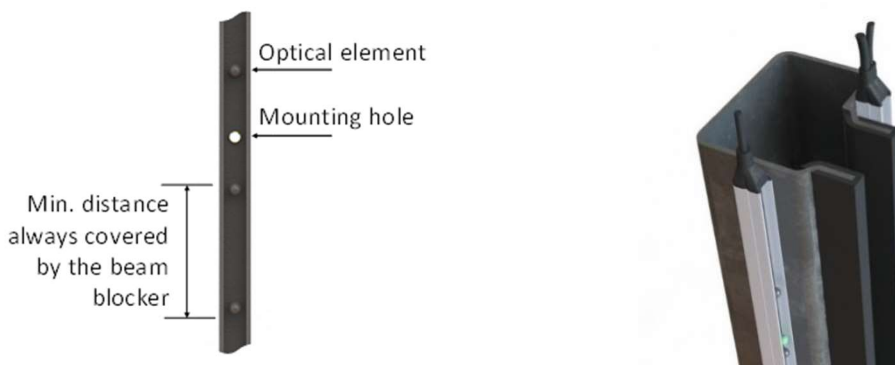

Figure 5.2: Door blanking with two RAY-LG sets
If two light curtains are installed parallel to, but not in line with the door panel in front of and behind the guide rail, the descending door will not interrupt the active beams. (Figure 5.2) However, blanking may still be required if any obstructing part of the door (e.g. strengthening bars, hinges, junction boxes) interrupt the light curtain. A beam blocker can be employed to shade the diodes on one side,
but it must be mounted so that at least one element is continuously covered during door closure (Figure 5.2).
8. If using two RAY-LG on sides of the slide guide rail (see Figure 5.2) make sure that both receiver bars are not mounted on the same side of the door to avoid interference between two sets.